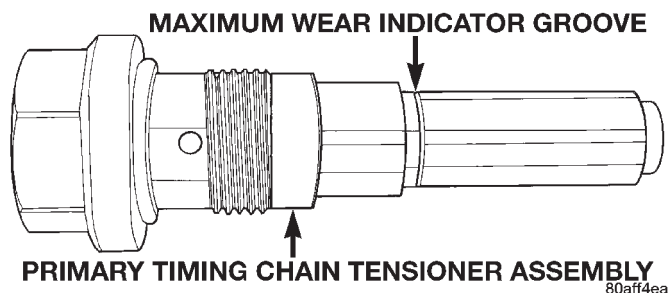

Fig. 100 Primary Timing Chain Tensioner
- (1) Remove right cylinder head cover.
- (2) Viewing through the cylinder head timing drive cavity, inspect the primary chain tensioner plunger. Rotate the engine clockwise to remove any chain slack and to achieve the maximum tensioner extension. If a machined groove on the plunger is visible (Fig. 100), the timing chain and/or related components are worn or stretched to service limits.
- (3) Inspect all chain guides, sprockets and tensioners for wear. Replace as necessary following the procedures outlined in this section.